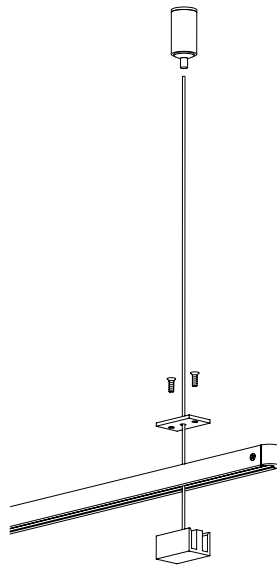

Fig. 13
2. Pass the Ceiling Hanger cable through the Power Bar, then through the center hole of the cover, making sure the counter-sunk holes on the cover are facing up. Attach the cover to the Ceiling Hanger using the two small Phillips screws. (Fig. 13)